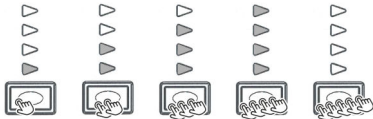

Fig. 3: LED display *[Boost]* button
1. Press the *[Boost]* button until your desired period is set (Fig. 3).